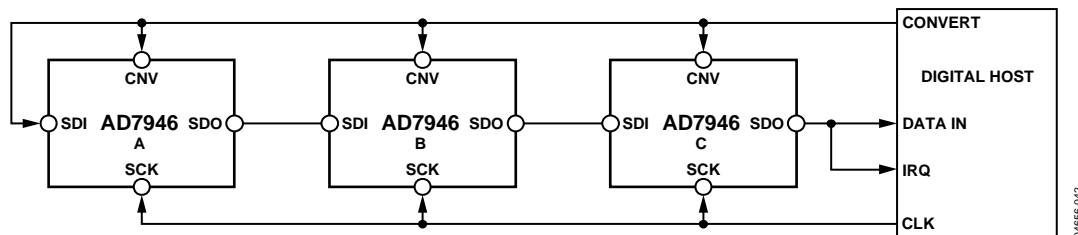
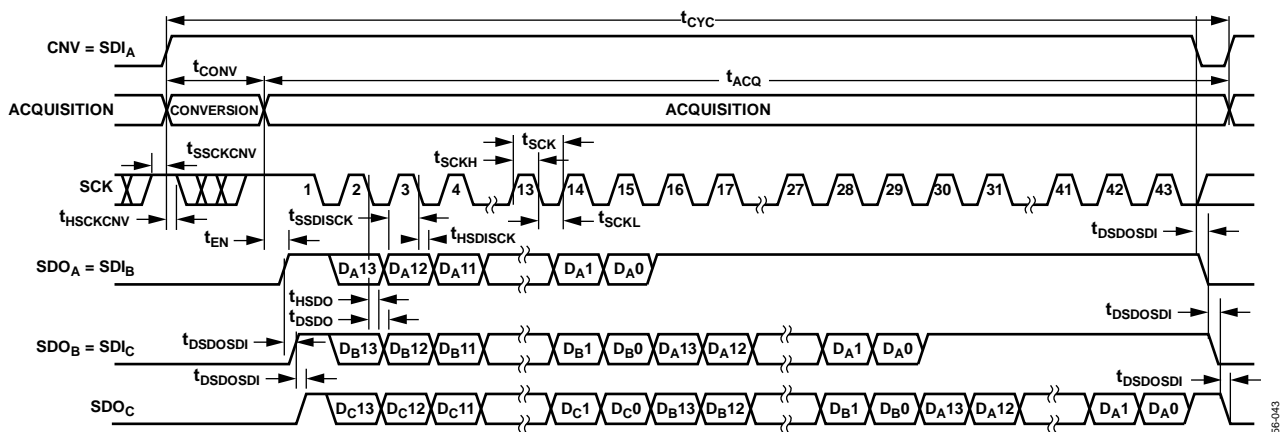

Figure 43. Chain Mode with BUSY Indicator Connection Diagram
Figure 44. Chain Mode with BUSY Indicator Serial Interface Timing
- In chain mode, if SCK is high during the CNV rising edge (see Figure 44).
A connection diagram example using three AD7946s is shown in Figure 43, and the corresponding timing is given in Figure 44.
Figure 43) SDO is driven high. This transition on SDO can be used as a BUSY indicator to trigger the data readback controlled by the digital host. The AD7946 then enters the acquisition phase and powers down. The data bits stored in the internal shift register are then clocked out, MSB first, by subsequent SCK falling edges. For each ADC, SDI feeds the input of the internal shift register and is clocked by the SCK falling edge. Each ADC in the chain outputs its data MSB first, and $14 \times N + 1$ clocks are required to readback the N ADCs. Although the rising edge can be used to capture the data, a digital host using the SCK falling edge allows a faster reading rate and consequently more AD7946s in the chain, provided the digital host has an acceptable hold time. For instance, with a 3 ns digital host setup time and 3 V interface, up to four AD7946s running at a conversion rate of 360 kSPS can be daisy-chained to a single 3-wire port.